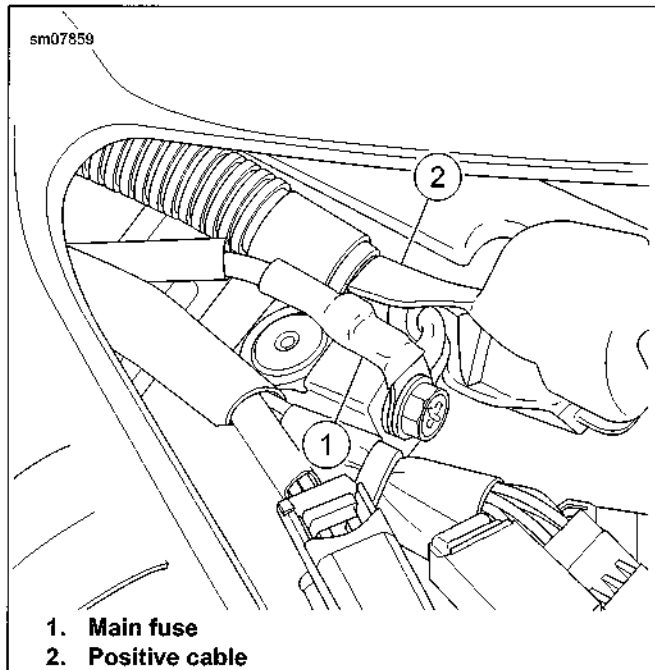

Figure 1-46. Positive Terminal
4. See Figure 1-46. Install positive terminal screw through main fuse cable (1) then main positive battery cable (2). Tighten to 60-70 in-lbs (6.8-7.9 Nm).